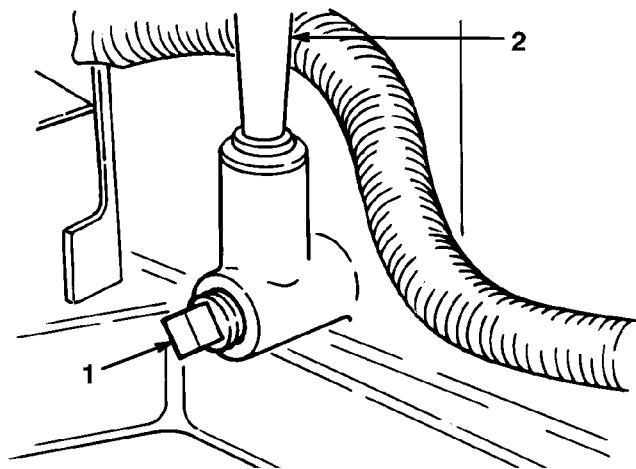

Figure 34
4. Place a pan below the oil dipstick/fill tube and remove the drain plug (Fig. 34).